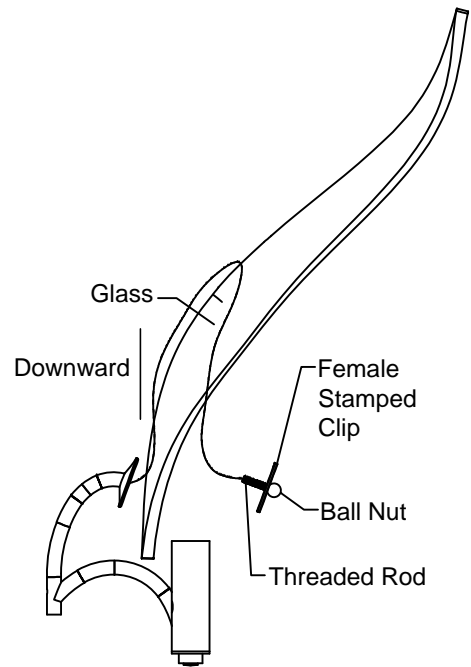

FIGURE-03
8. Install the frond glass in each stem. Lock them using the female stamped clip, theaded rod and ball nut. (See Figure-03)